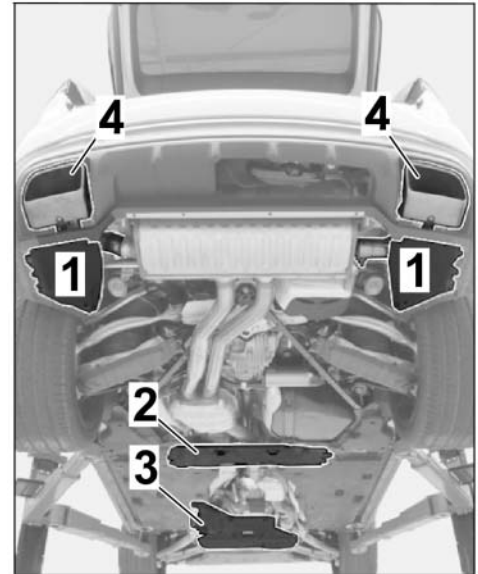

Figure 10
1.5.1 Remove rear underbody cover and rear tunnel cover (⇒ *Figure 10 -1 and 2-*). ⇒ *Workshop Manual '519419 Removing and installing rear underbody cover'*